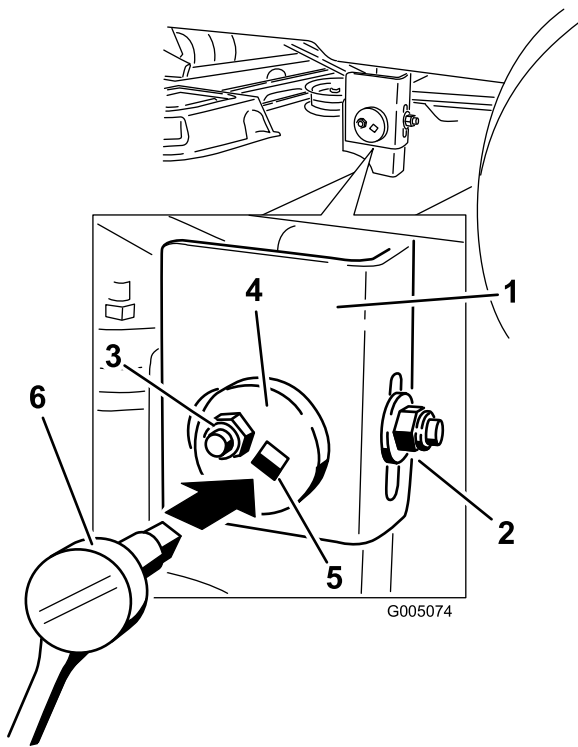

Figure 37
- Move the left side of the machine. Loosen, but do not remove, the rear locking nut on the hanger bracket (Figure 37).
- Loosen the side-locking nut on the hanger bracket just enough so that you can adjust the eccentric plate (Figure 37).
- Stop the deck at the adjusted position and tighten the side-locking nut on the hanger bracket to hold the new position (Figure 37).